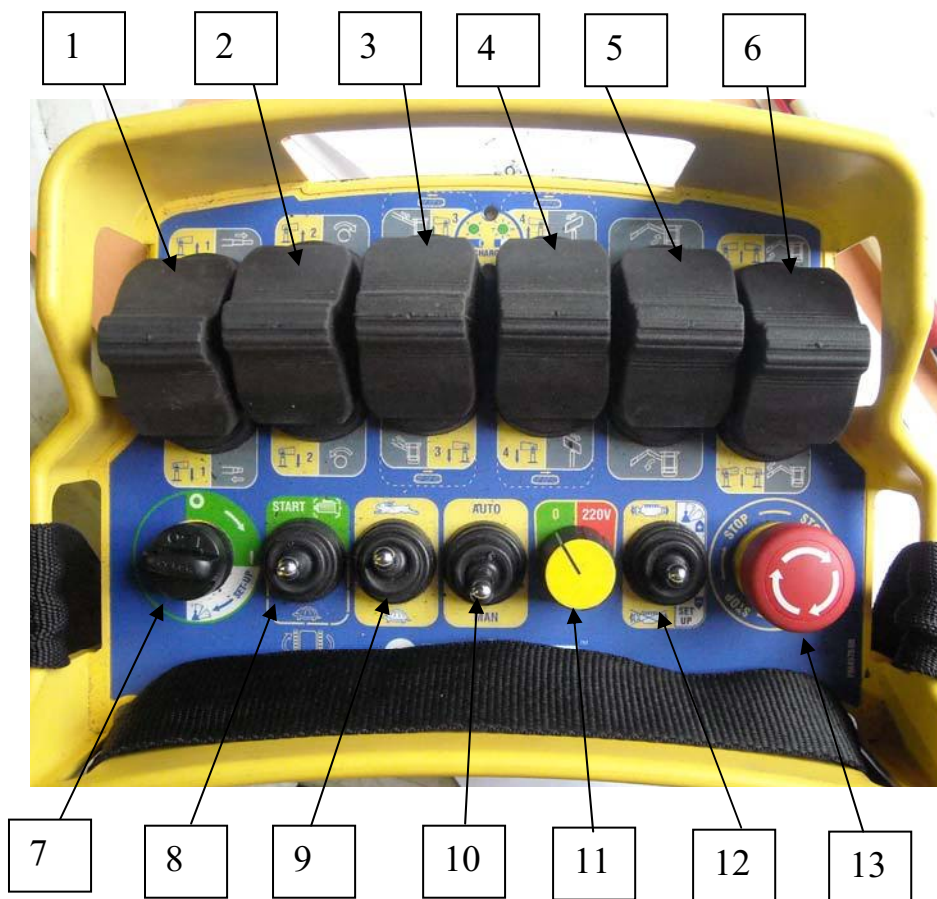

Fig.3.6
- it is possible to start engine also from ground control panel, by the switch 12 of Fig. 3.6, but before it's necessary to activate it (see radio control manual).
- select “rabbit or snail” on the ground control panel with switch 9 in fig. 3.6
- softly act the two control levers 1 and 6 in fig. 3.6 to transfer forward or backward.
- with the engine on, push the button part. 2 in fig. 3.2 and contemporarily, from the ground controls panel, lift the boom up (part.6 Fig. 3.6).
Platform can be also be rotated, acting on the two levers 1 and 5 of Fig. 3.6 at the
Slow speed pre-selection 10 of Fig. 3.6 increases braking action and, therefore, it is recommended for driving and parking on a slope
- Automatic mode: switch on "Auto" the selector pos. 10 fig. 3.6. Activate the joystick pos. 1 fig. 3.6 to give the direction of the movement, and at the same time push forward the joystick pos. 6 of the same picture, to give oil to the stabilizer. In this modality the machine levelling automatically and when the frame is in horizontal position, the system stop the stabilizer movements. **Note: check always the correct level of the frame using the visual bubble on the frame.**
- Manual mode: switch the pos. 10 fig. 3.6 on "Man". Activate the joystick from pos. 1 to 4 fig. 3.6 to give the direction movements for each stabilizer and at the same time push forward the joystick pos. 6 of the same pictures, to give oil to the stabilizer. In this modality it's possible to move separately every stabilizer.
To retract the stabiliser, check that the green light on the turntable (Fig. 3.17) is lighted on. Select the key 1 in fig. 3.2 on stabilisers symbol, act the accelerator lever part 6 in fig 3.6 and the lever 1 to stabilisers lifting direction until the complete retraction. In alternative, act manually on every stabiliser in the following way: switch pos. 10 fig. 3.6 on “Man”, act, preferably, two levers contemporarily (the two front or the two rear ones) and push the accelerator lever softly, until the complete retraction.